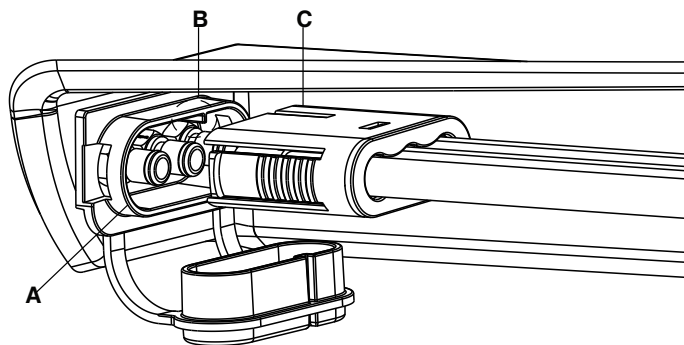

Figure 4 – Hose connection
2. Open the hose port (A) on the support surface (Figure 4).